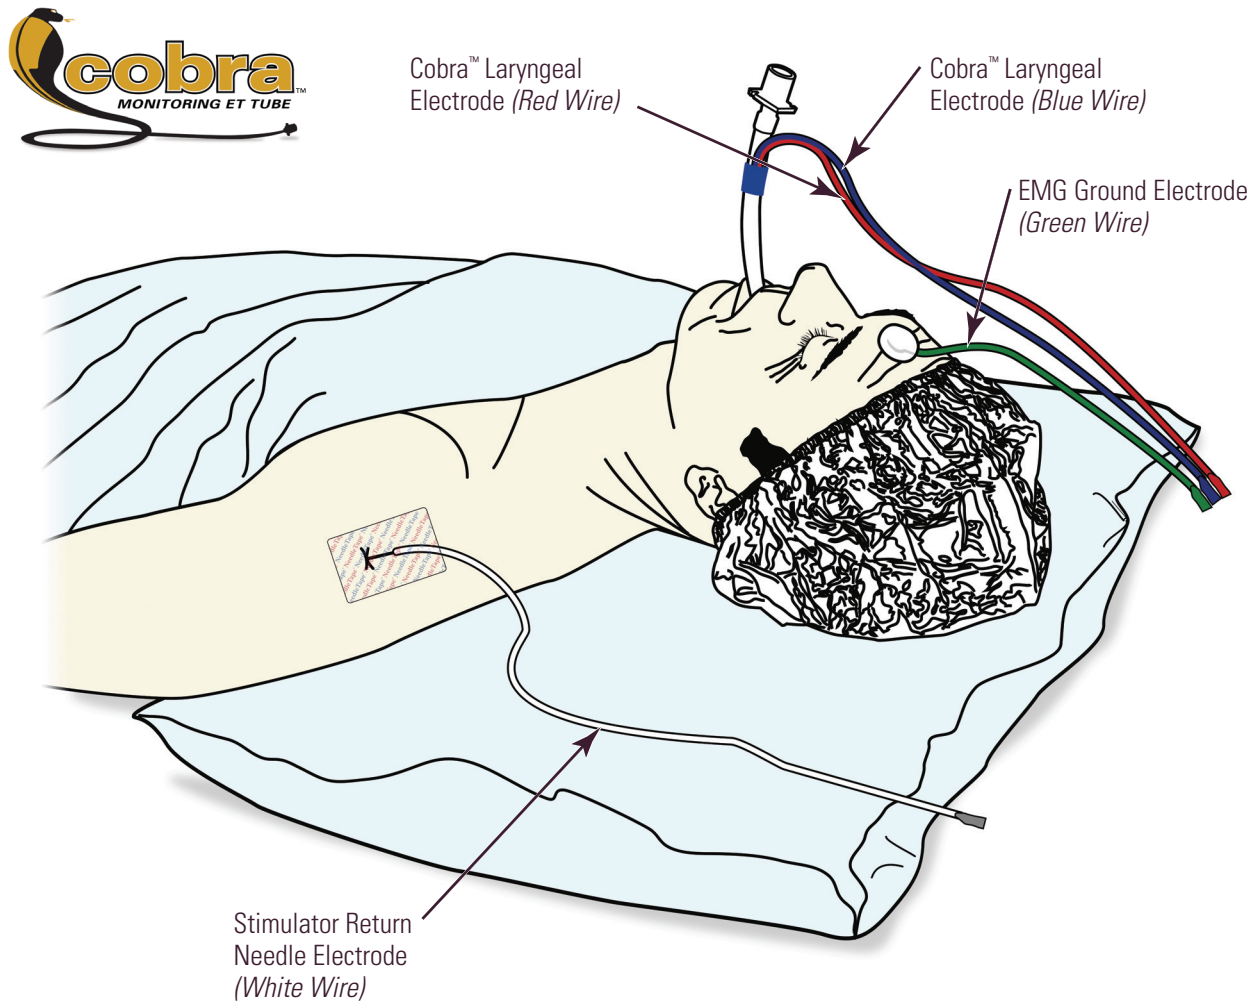

Figure 2
- 2) Tape the ET tube securely with 2 pieces of tape by wrapping each piece first around the tube and then securing it to the upper lip. (fig. 2)